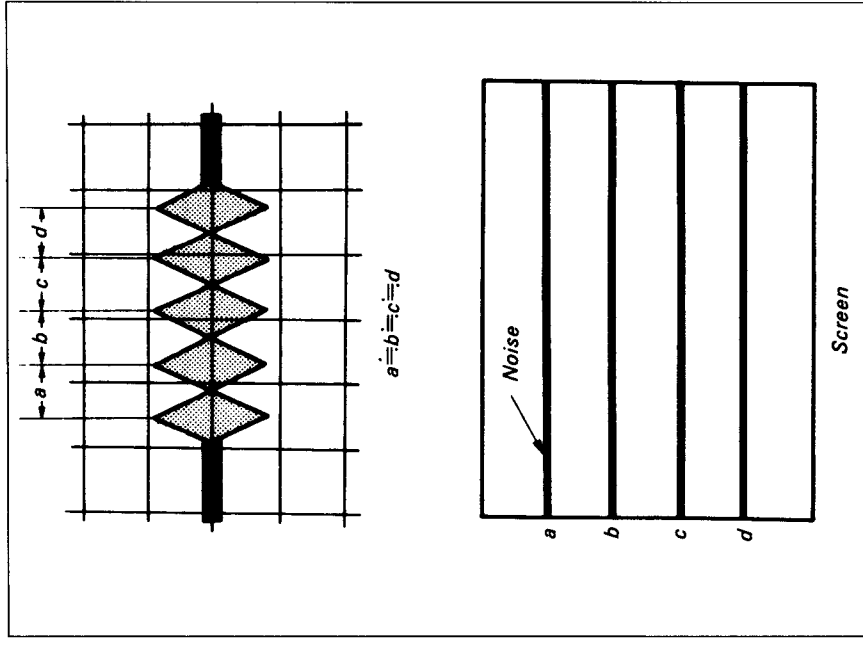

Fig. 7-82.
- 6) Set up the REV mode and confirm that the waveform noise pitches are uniform. If not adjust as follows. (See Fig. 7-82.)